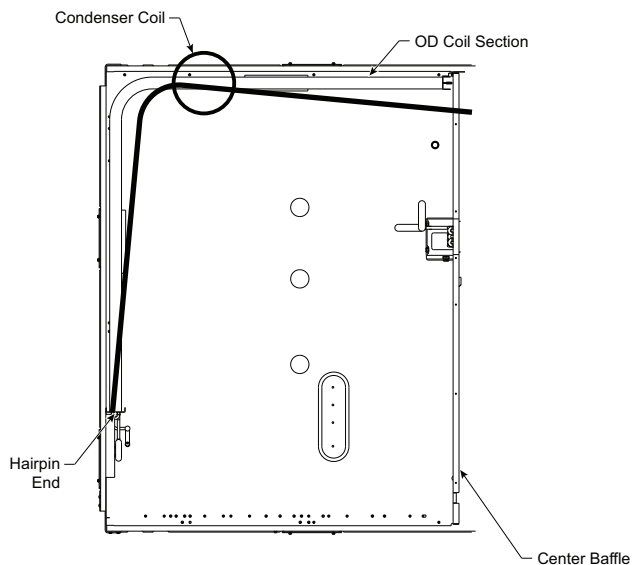

Fig. 22 — Separating Coil Sections (Top View)
8. Insert a spacer (field-supplied) between the tube sheets to hold the coils apart. See Fig. 22.